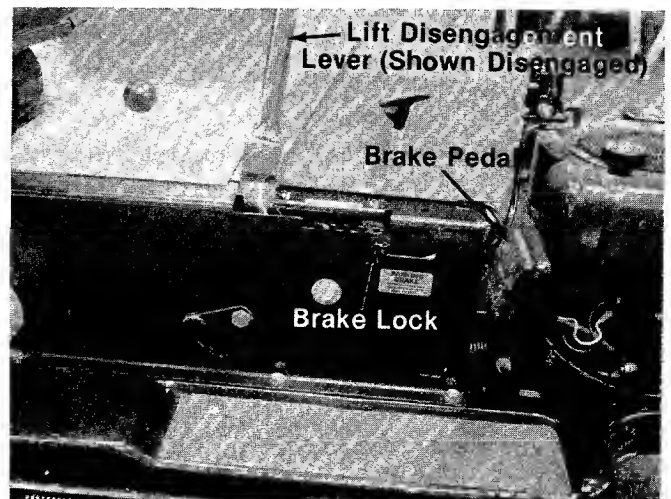

FIGURE 7.
c. **Brake.** The brake pedal is located on the right hand side of the mower and is operated by depressing it with your right foot. See figure 7.
d. **Brake Lock.** The brake lock is located on the right hand side of the mower. To lock the brake, depress the brake pedal and lift up the lock button. The pedal will stay depressed. To release, depress the pedal. See figure 7.
k. **Lift and Disengagement Lever.** It is used to raise the cutting deck. Pulling it all the way back and locking it disengages the blades. The engine will not start unless the lift and disengagement lever is in the disengaged position. See figure 7.
3. Place the lift and disengagement lever in the "DISENGAGED" position. See figure 7.
To stop the blades, move the lift and disengagement lever (figure 7) into the DISENGAGED position. This raises the deck and disengages the blades.